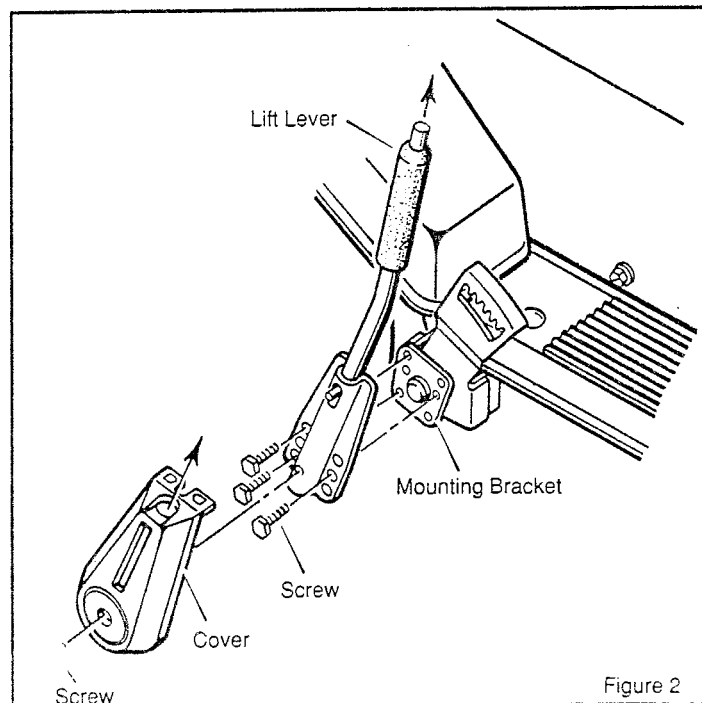

Figure 2
1. If the lift lever has the **cover** (Figure 2), remove the **screw** from the **cover**. Slide the **cover** up the lift lever.